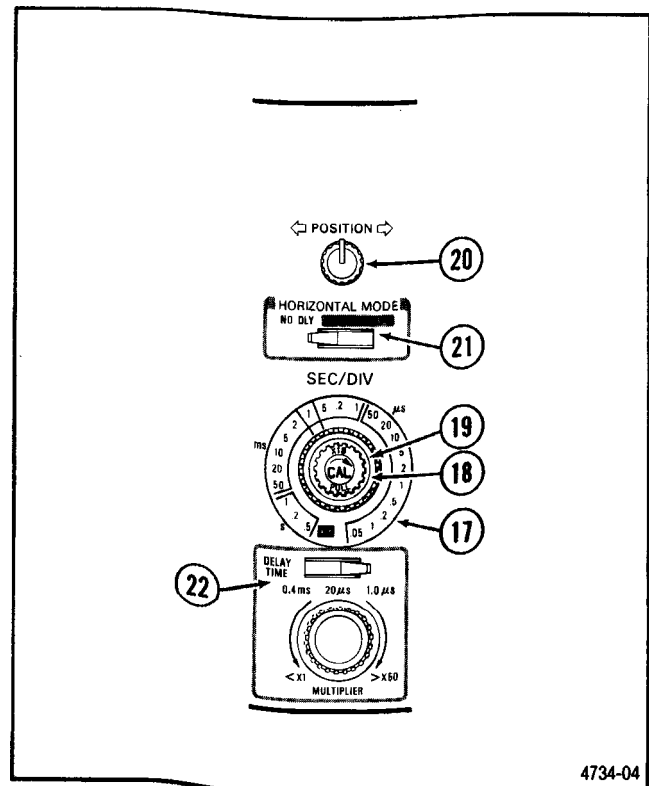

Figure 2-5. Horizontal controls.
Refer to Figure 2-5 for location of items 17 through 22.